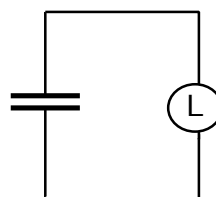

Figure 5.12b
2. Rank the three bulb combinations in Figures 5.12b, c, and d according to lighting time (shortest to longest).
- Rank the three bulb combinations in Figures 5.12b,c,d according to flow rate.